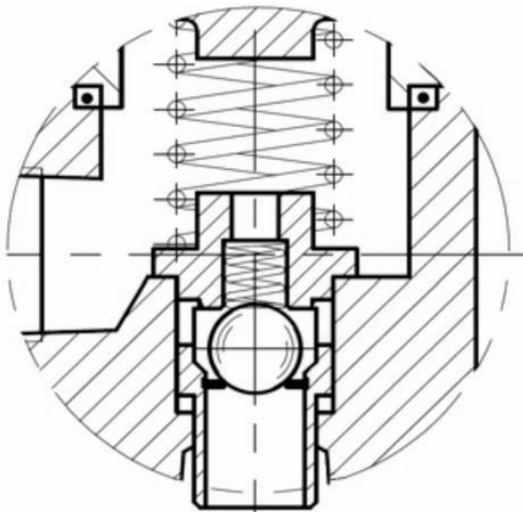

Figure 20
- 2. **Vapor Removal System (VRS) option (Figure 20)** provides rapid flow-through of vapor until liquid reaches the valve and then closes off the vapor orifice for maximum pump efficiency and flow rate. i.e. fulfills an excess-flow valve type of function. **NOTE:** once the orifice is closed, the valve operates like a standard bypass valve with no liquid bleeding past the orifice.